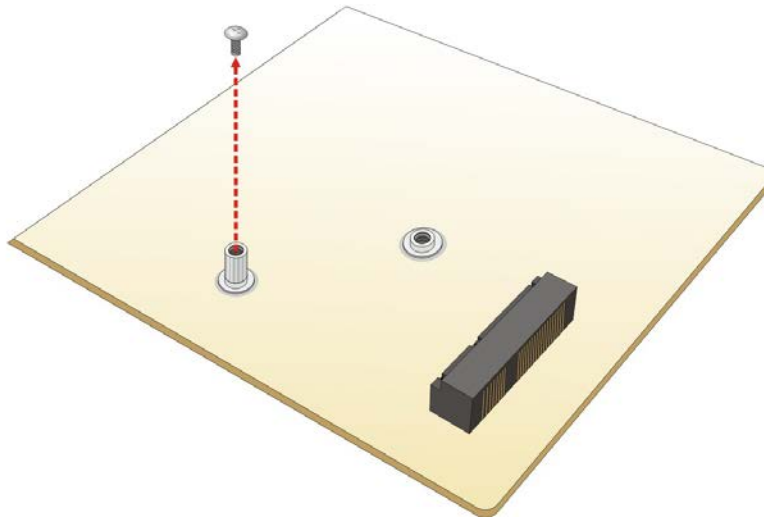

Figure 4-7: Removing the Retention Screw
Step 2: Remove the retention screw. Remove the retention screw as shown in **Figure 4-7**.
Step 2: **Remove the retention screw.** Remove the retention screw as shown in **Figure 4-7**.